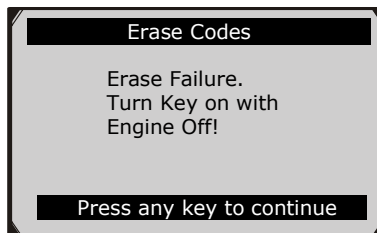

Figure 5.9
- If the codes are not cleared, then an “Erase Failure. Turn Key on with Engine off!” message appears. (Figure 5.9)